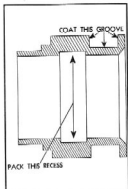

Fig. 11—Lubrication Points on Throw-Out Bearing Collar
6. Lubricate the recess on the inside of the throwout bearing collar and coat the throwout fork groove with a small amount of high-melting point lubricant. (Fig. 11.) Then install the ball throwout bearing assembly to the throwout fork.